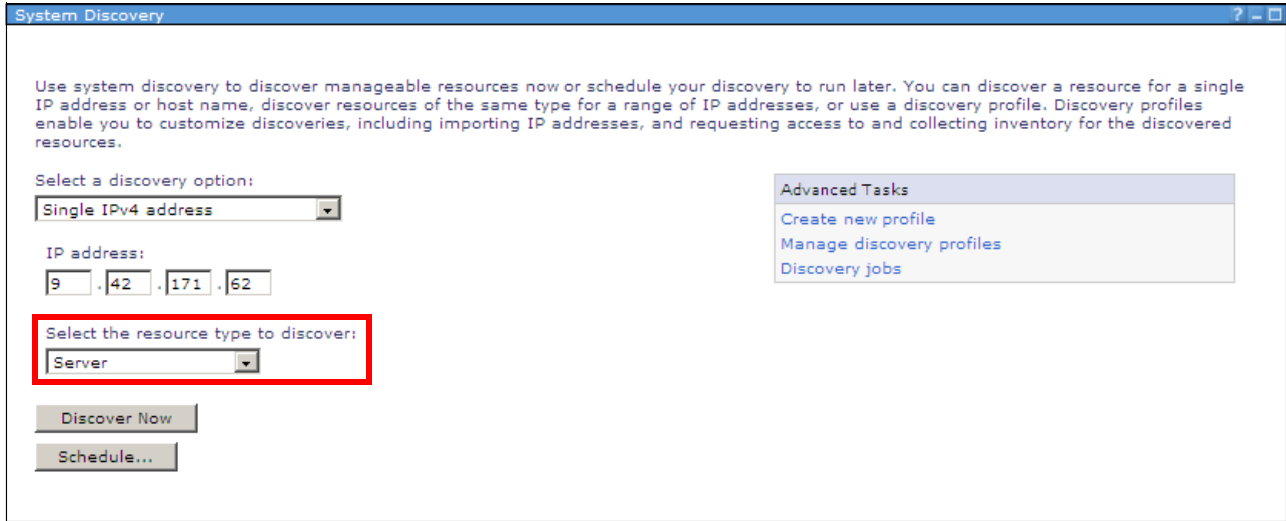

Figure 9-19 IBM Systems Director System Discovery pane
4. An IMM is considered a server object in IBM Systems Director. To specify the IMM as a Server object, click the **Select the resource type to discover** list box and select **Server** as the resource type, as shown in Figure 9-19 on page 470.